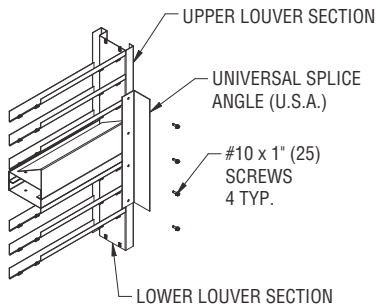

FIG. 2.2 - JAMB SPLICE AT HORIZONTAL MULLION
4. Place the louver section into the opening. See Fig. 2.2, 2.3 (stationary only), 2.4 and 2.5.
6. When the louver is level and in the proper position, fasten louver frame to clip angles with (2) minimum #10 s.m. screws. (Fasteners are by others).
5. Install Universal Splice Angle (USA) to jamb at horizontal mullion and, if required, install Hidden Blade Support Angle Splice where required. See Fig. 2.2, and if required, 2.3.